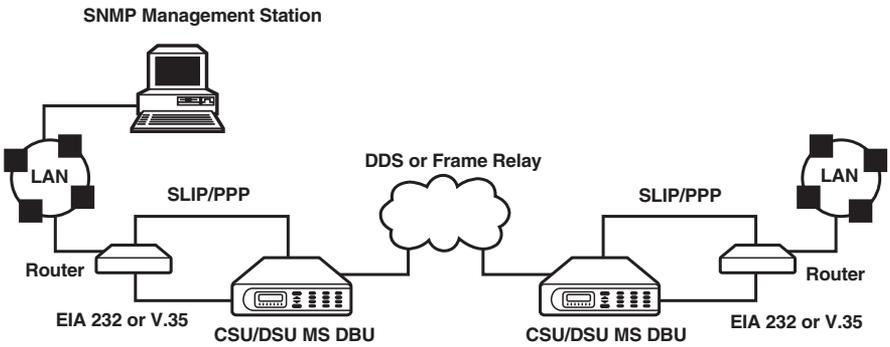

Figure 4-1. SLIP/PPP LAN Application with SNMP/TELNET Management.
- A device (a router, for example) running SLIP protocol. Connection is made through the CSU/DSU MS DBU's control port. See Figure 4-1.
- A device (a router, for example) running async PPP protocol. Connection is made through the CSU/DSU MS DBU's control port. See Figure 4-1.